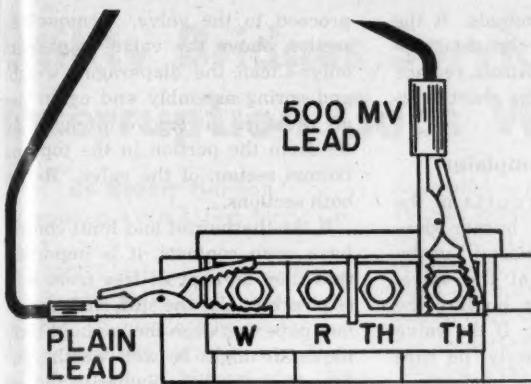

Fig. 6. Millivoltmeter connected to the outside terminals of the valve.
- Connect a millivoltmeter to the outside terminals of the valve as shown in Fig. 6.